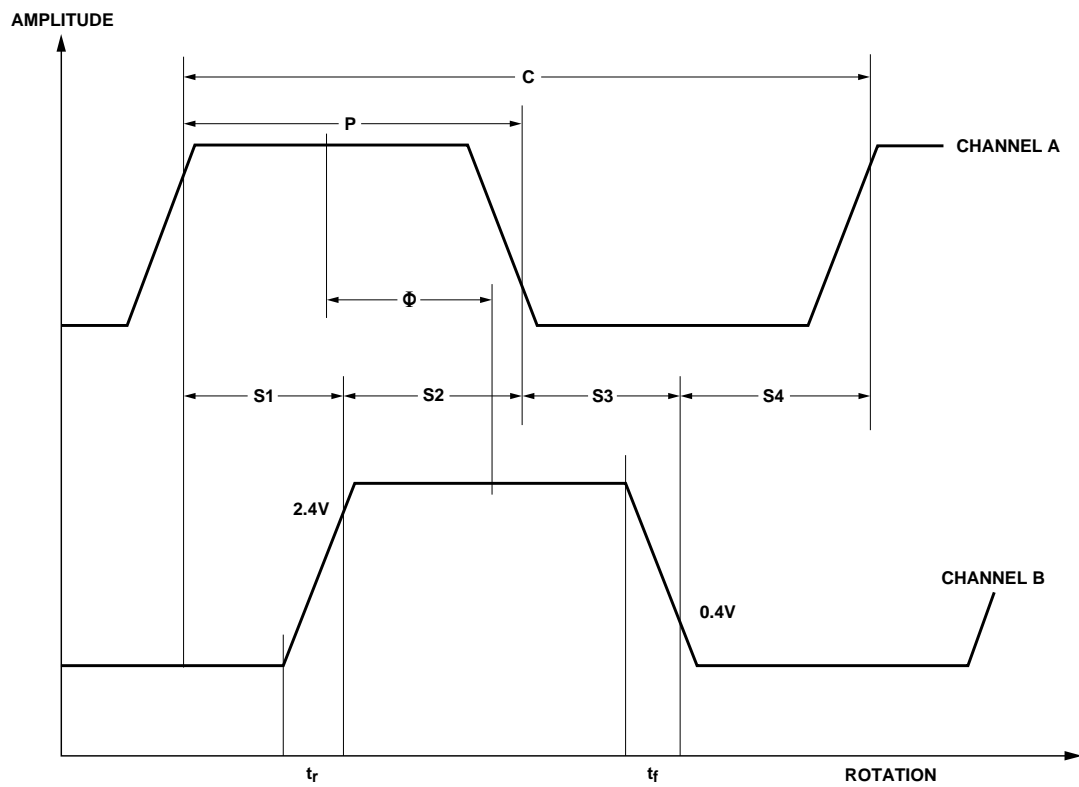

Figure 2.
Note: Refer to Figure 2.
**Note:** Refer to Figure 2 for output waveform on tr and tf.